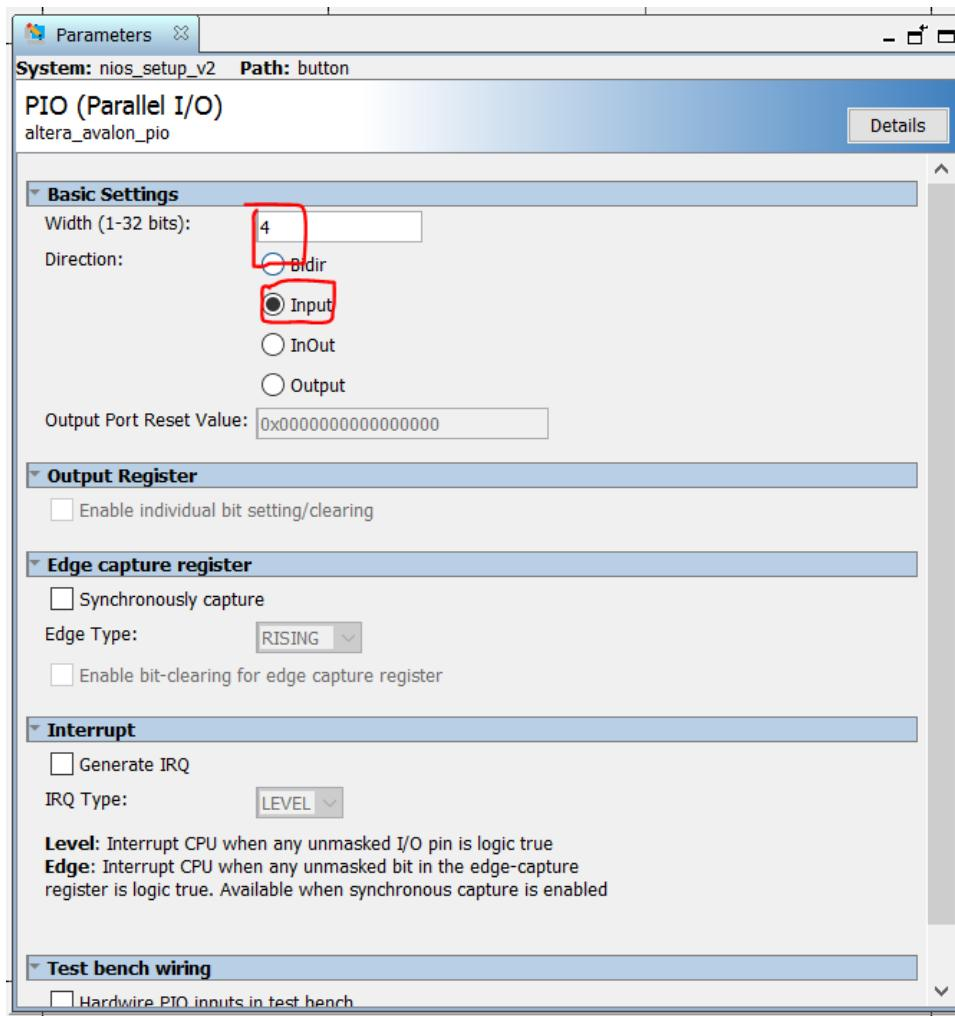

Figure 13: Parallel IO Configuration Panel for Pushbutton
13. When you have setup your button input component interface as in Figure 13, click **Finish**.